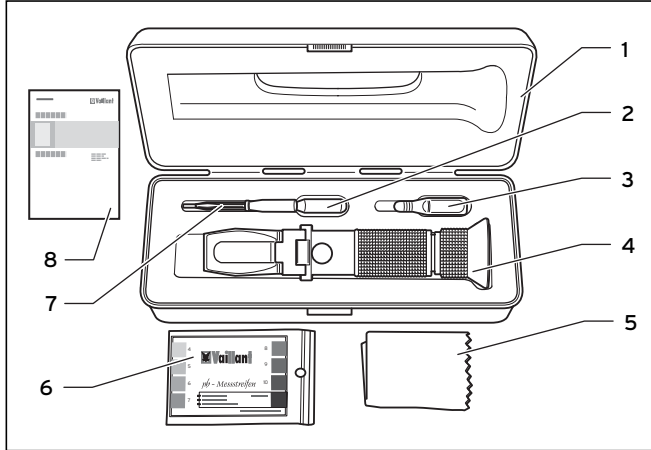
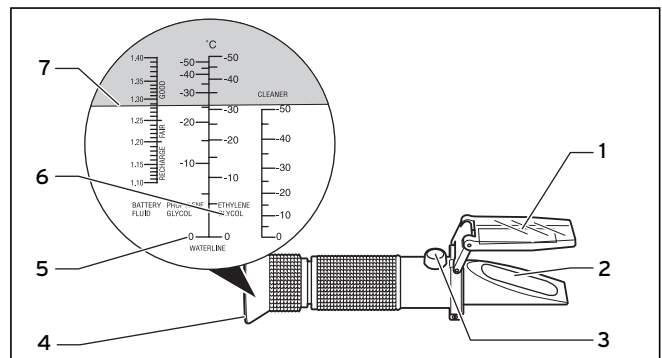

Fig. 3.1 Scope of delivery for refractometer
Fig. 4.1 Determining level of frost protection
- Take the refractometer (4, Fig. 3.1) out of the carrying case (1, Fig. 3.1).
- Open the cover plate (1, Fig. 4.1) of the refractometer and apply 1-2 drops of distilled water to the surface of the prism (2, Fig. 4.1). Now close the cover plate by pressing gently on the surface of the prism so that the distilled water spreads across the entire surface of the prism without forming air bubbles or leaving dry areas.
- Turn the sharp end of the refractometer to the light and look through the eyepiece (4, Fig. 4.1).
- Adjust the eyepiece by turning it so that the limit line (7, Fig. 4.1) that separates the light section from the dark section is clearly visible.
- Adjust the position of this line by turning the adjusting screw (3, Fig. 4.1) with the small screwdriver (7, Fig. 3.1) so that it coincides with the water line (5, Fig. 4.1).
- Carefully dry the surface of the prism and the cover plate immediately following the adjustment using the cleaning cloth (5, Fig. 3.1).
- Open the cover plate (1, Fig. 4.1) of the refractometer and use the pipette to apply 1-2 drops of solar fluid (2, Fig. 3.1) to the surface of the prism (2, Fig. 4.1). Now close the cover plate by pressing gently on the surface of the prism so that the solar fluid spreads across the entire surface of the prism without forming air bubbles or leaving dry areas.
- Adjust the eyepiece by turning it so that the limit line (7, Fig. 4.1) that separates the light section from the dark section is clearly visible. Determine the value by reading it off at the limit line on the propylene glycol scale (6, Fig. 4.1).
- Carefully remove the solar fluid from the surface of the prism and cover plate immediately following the measurement by gently wiping it off using a soft cloth moistened with water and then drying it with the cleaning cloth (5, Fig. 3.1).
- Carefully dry the surface of the prism (2, Fig. 4.1) and the cover plate (1, Fig. 4.1) immediately following each calibration of the refractometer using the cleaning cloth (5, Fig. 3.1).
If the surface of the prism and the cover plate are still dirty due to insufficient cleaning beforehand, the level of frost protection subsequently determined will be inaccurate as the sample is corrupted. In this case the surface of the prism and the cover plate should first of all be cleaned by carefully wiping them with a soft cloth moistened with water, then dried with the cleaning cloth (5, Fig. 3.1).
If the surface of the prism and the cover plate become contaminated with oil, grease or similar as a result of improper handling it will not be possible to determine the frost protection as the solar fluid sample will be repelled from the surface. In this case the surface of the prism and the cover plate should first of all be cleaned by carefully wiping them with a soft cloth moistened with spirit, then dried with the cleaning cloth (5, Fig. 3.1).
- Take a pH indicator stick (6, Fig. 4.1) out of the packaging and immediately close it.